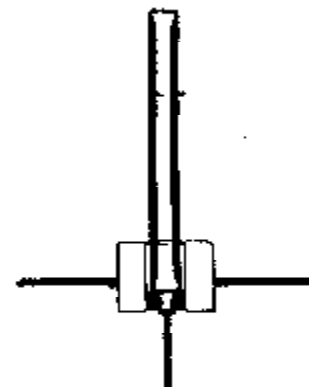

FIG 3
- 5a Single bearing motor: position D+D tool until seated on bearing , tap lightly to remove bearing ( Fig 3 ).